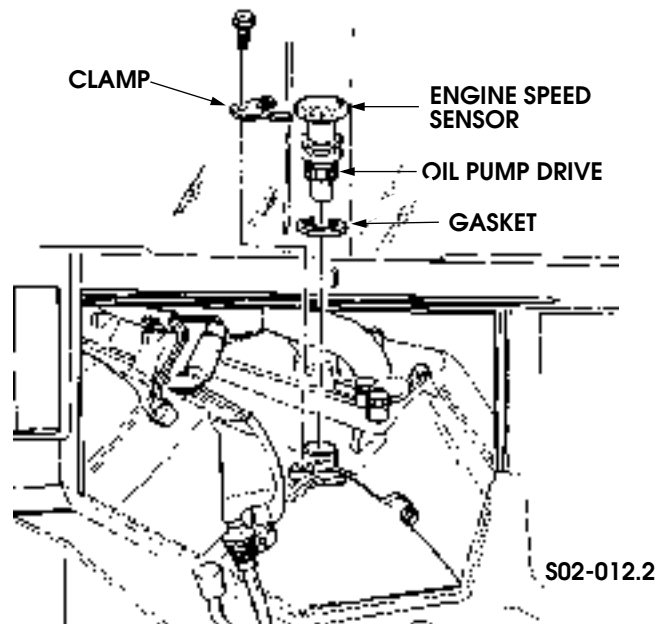

Figure 2-20: Oil Pump Drive Removal/Installation
4. Remove bolt that secures oil pump drive clamp to block (Figure 2-20).